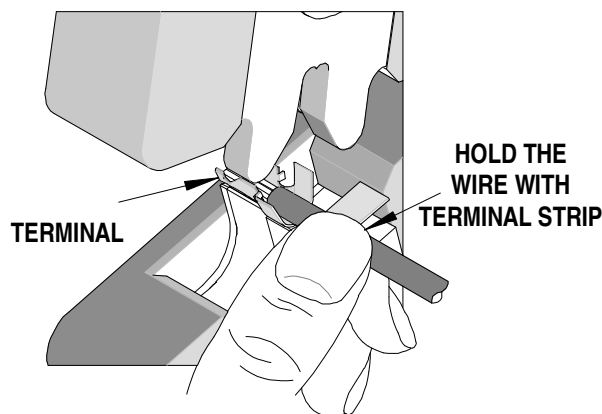

Figure 4
1. While holding onto the terminal strip with the properly strip wire, insert into the lower jaw of the hand tool until the front of the terminal is flush with the conductor anvil insert. See Figure 4 and 5.